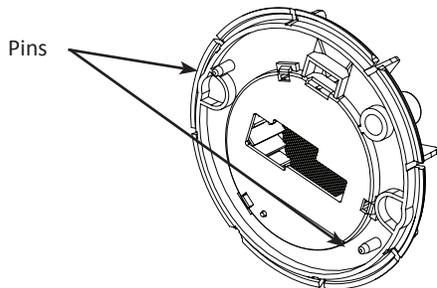

FIGURE 7: Pins on Back of Optic Cage Base
8. Line up the two pins on the back of optic cage base to the pin holes on the circuit board to place the optic cage base on the circuit board (FIGURE 7).